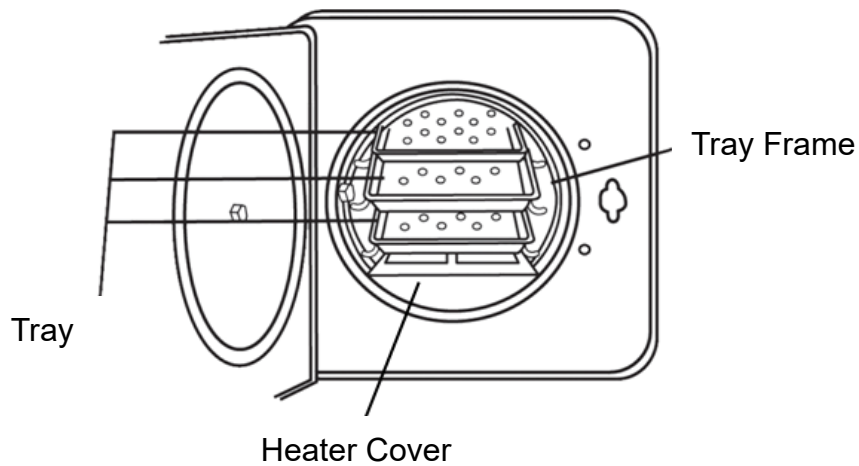

Figure 31 – Tray
E. Install the tray as Figure 31. (optional accessory)